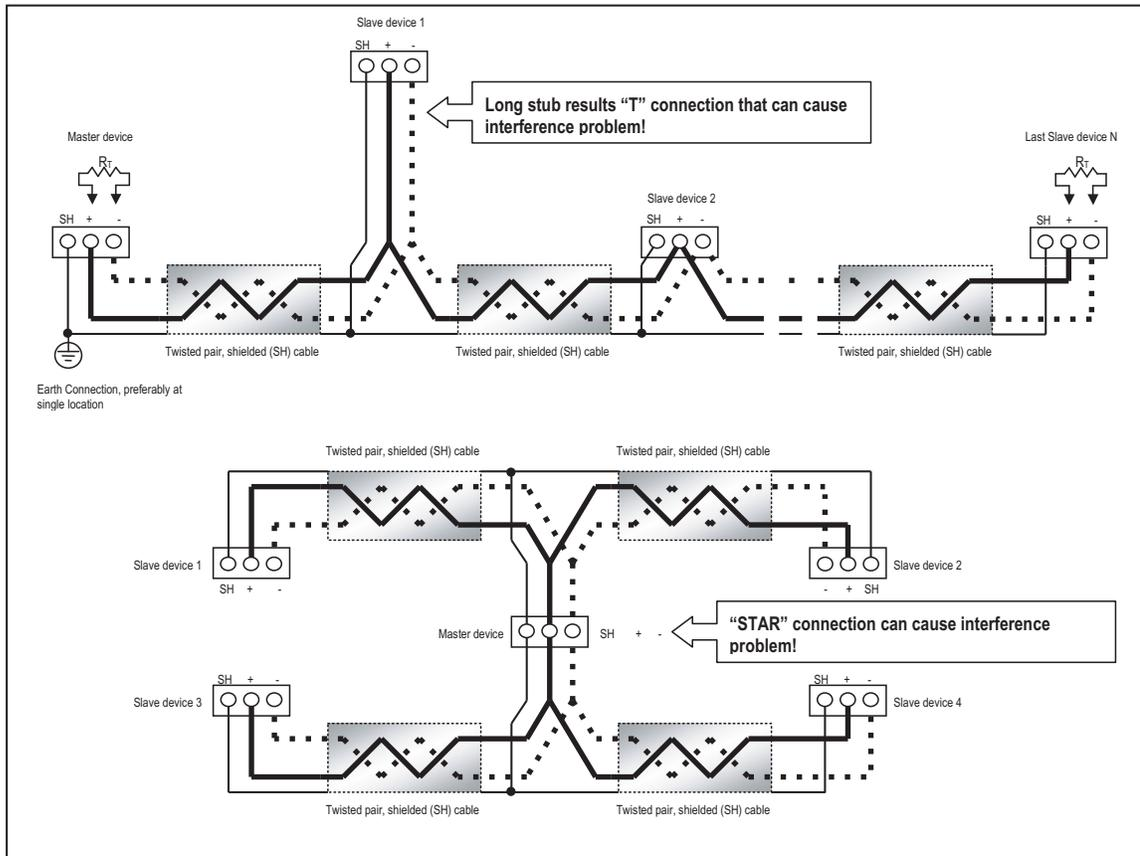

Figure 4-5: Incorrect “T” and “Star” Topologies
- Avoid both “star” and “tee” connections (see Figure 4.5). No more than two cables should be connected at any one point on an RS485 network, whether the connections are for devices, converters or terminal strips.